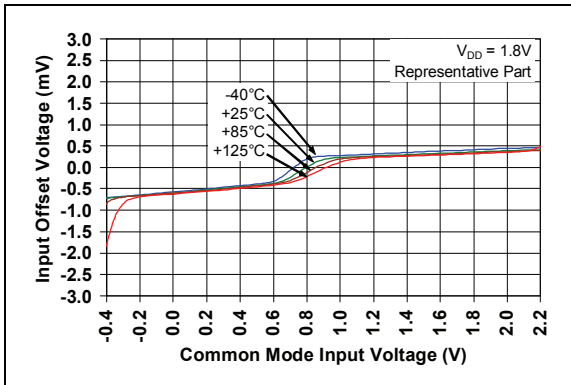

**FIGURE 1-1:** AC and DC Test Circuit for Most Specifications.
Electrical Characteristics: Unless otherwise indicated, $T_A = +25^\circ\text{C}$ , $V_{DD} = 5.0V$ , $V_{SS} = \text{GND}$ , $V_{CM} = V_{SS}$ , $V_{OUT} \approx V_{DD}/2$ , $V_L = V_{DD}/2$ , and $R_L = 10\text{ k}\Omega$ to $V_L$ (refer to <a href="#">Figure 1-1</a> ).
**Electrical Characteristics:** Unless otherwise indicated,  $T_A = 25^\circ\text{C}$ ,  $V_{DD} = +5.0\text{V}$ ,  $V_{SS} = \text{GND}$ ,  $V_{CM} = V_{SS}$ ,  $V_{OUT} \approx V_{DD}/2$ ,  $V_L = V_{DD}/2$ ,  $R_L = 10\text{ k}\Omega$  to  $V_L$  and  $C_L = 60\text{ pF}$  (refer to Figure 1-1).
The circuit used for most DC and AC tests is shown in Figure 1-1. This circuit can independently set  $V_{CM}$  and  $V_{OUT}$ ; see Equation 1-1. Note that  $V_{CM}$  is not the circuit's common mode voltage ( $(V_P + V_M)/2$ ), and that  $V_{OST}$  includes  $V_{OS}$  plus the effects (on the input offset error,  $V_{OST}$ ) of temperature, CMRR, PSRR and  $A_{OL}$ .